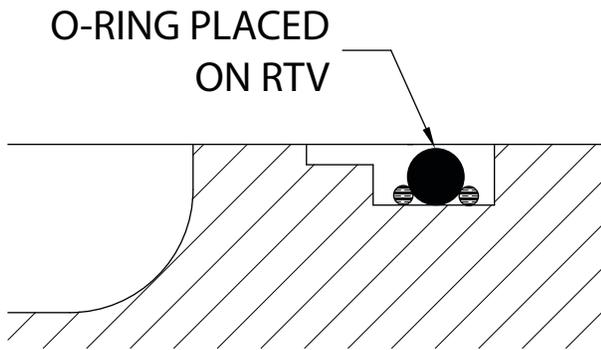
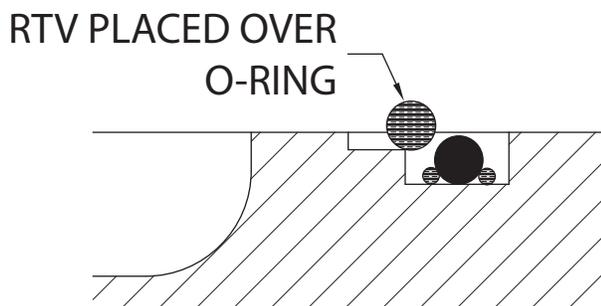

Figure 15
Figure 16
4.6.4.4 Install the O-rings (I.D. and O.D.) on top of the sealant, working them into position so that they lay flat in the bottom of the groove. See Figure 15. A second bead of sealant .060"-0.090" (1,5 mm - 2,3 mm) in size should then be applied in the shallow groove. See Figure 16.